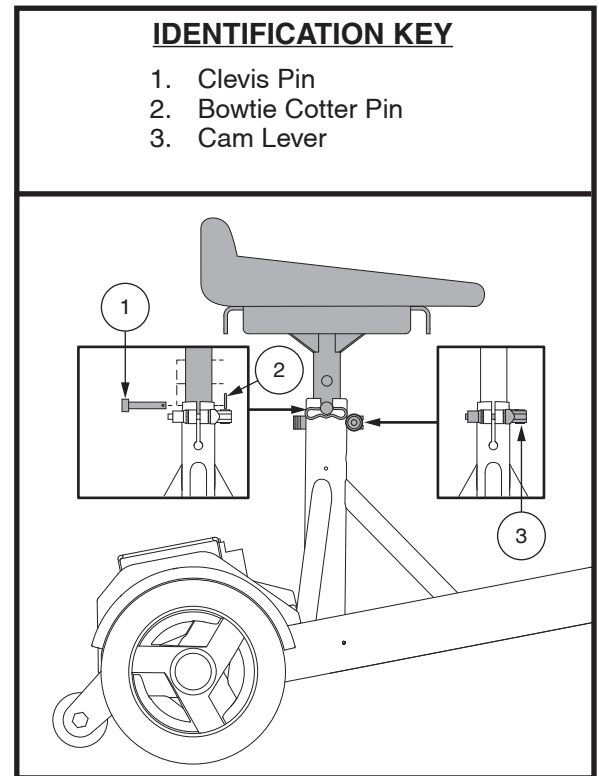

Figure 20. Seat Instalation
The seat can be repositioned to different heights. See **figure 20**.
1. While holding the seat, align the adjustment holes on the seat and lower seat post slot and insert post. See figure 20.